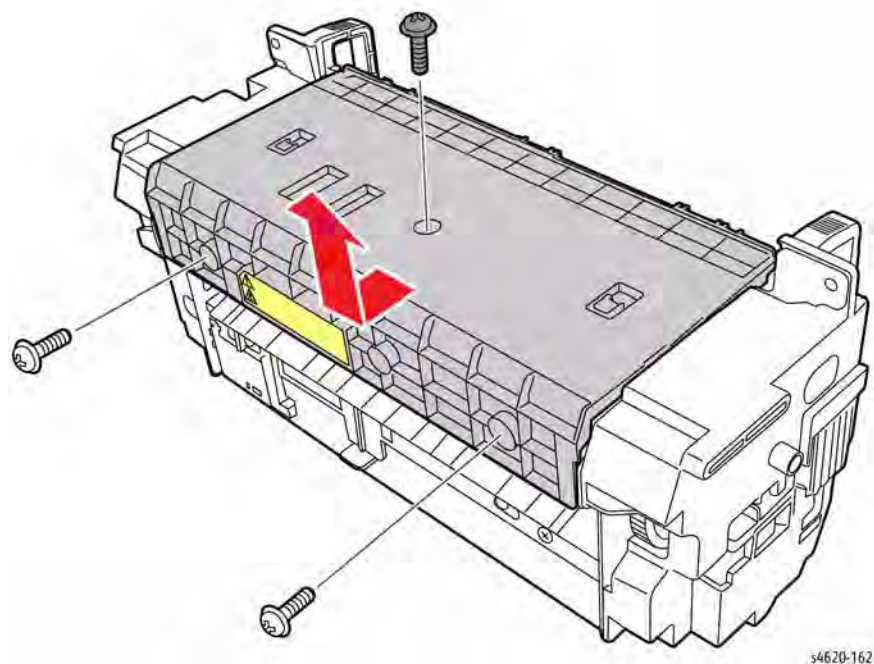

Figure 1 Remove the Fuser top cover
3. Remove 3 screws (2 metal) and (1 plastic) that secure the Fuser top cover, Figure 1.